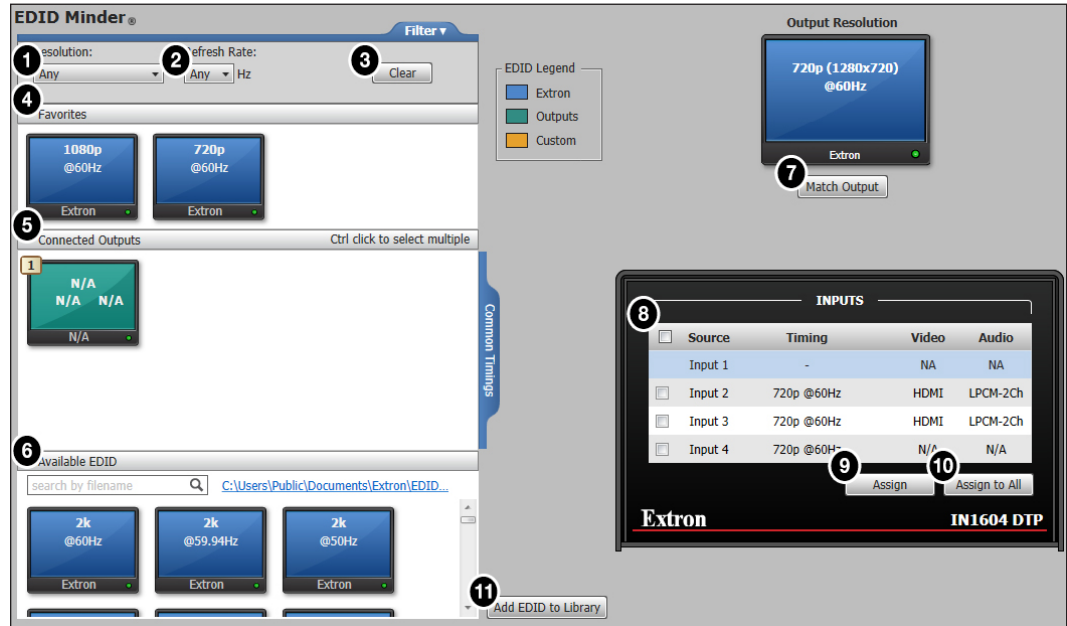

Figure 45. EDID Minder Page
1. From the **Resolution** drop-down menu (see figure 45, **1**), select a specific resolution or **Any**.
1. From the inputs group box (table of inputs) on the right, select the check boxes for the desired inputs (see figure 45, **8** on page 63).